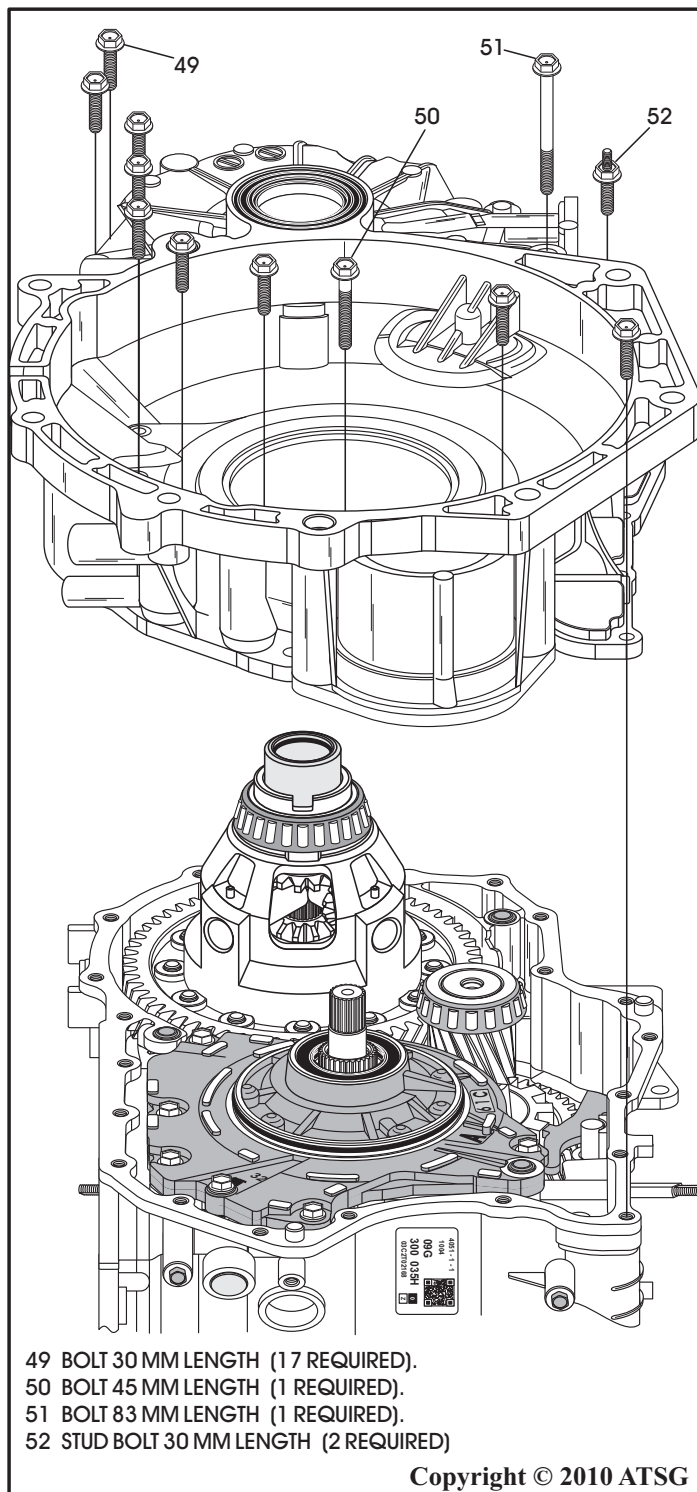

Figure 66
33. Remove the converter housing from transaxle case by tapping with a mallet to loosen housing from dowels and sealant (See Figure 66).